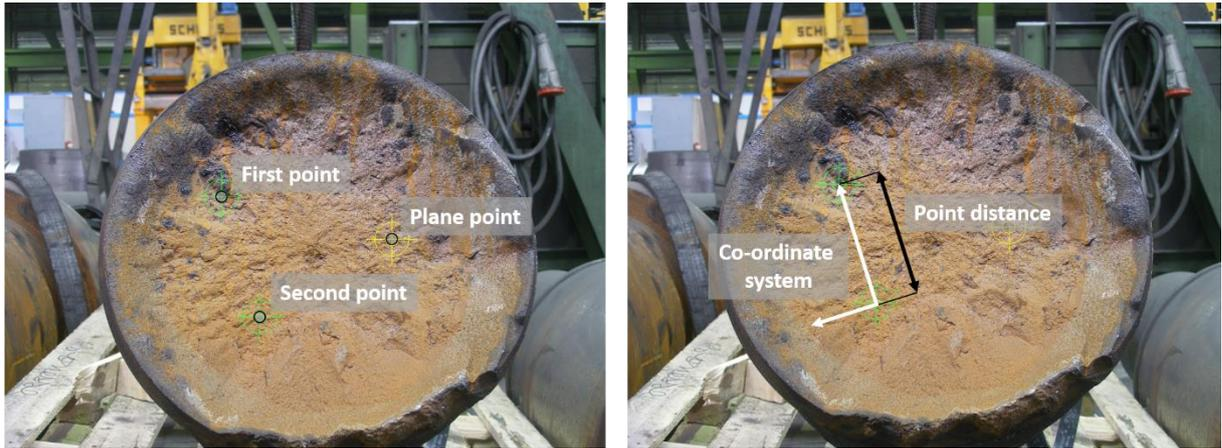
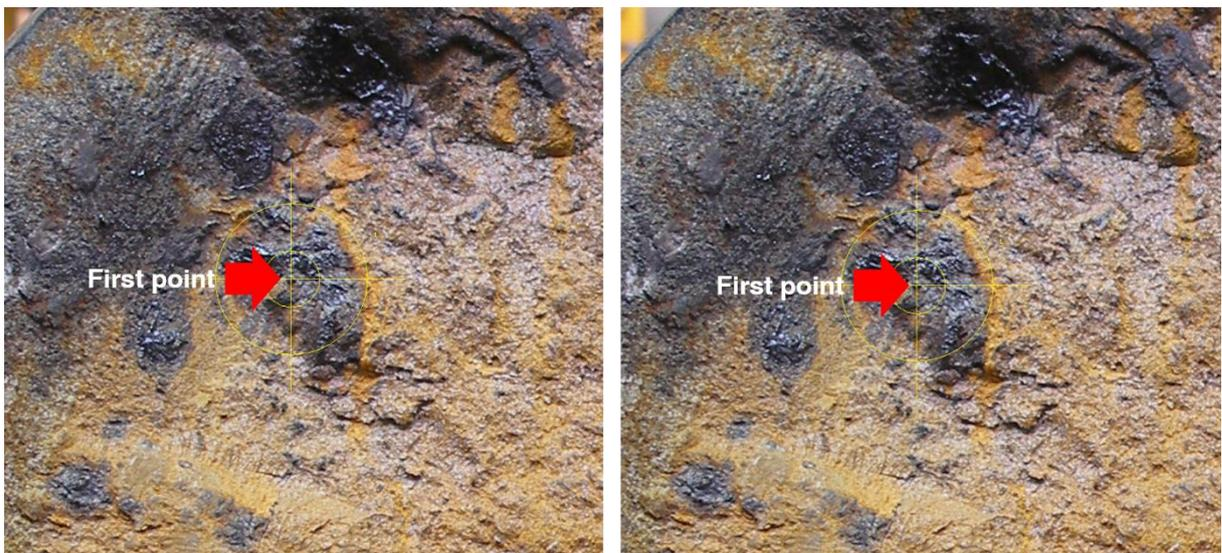

Figure 10: Definition of the Reference Points in the Sample Mode and local co-ordinate system using natural Reference Points
Figure 11: Definition of natural Reference Points using manual targeting
Figure 10, Figure 11 and Figure 12 show definitions of natural *Reference Points* using manual targeting and standardised reference object using automatic targeting, respectively.
5. Define the *First Point* and the *Second Point* of the scale bar and additionally the *Plane Point* by following the steps 4 – 9 in Chapter 6.1 (follow the sequence for setting the *Upper Point Pole*). See Figure 10 for an example.